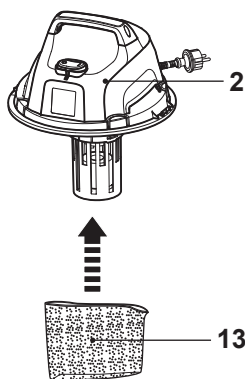

Fig. 9
- > Slide the foam sleeve (13) onto the motor unit (2) (Fig. 9). Ensure it sits properly in position.